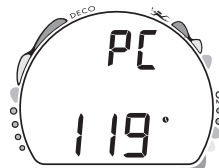

Fig. 21 - PC Interface
- After having set and accepted FO2, the PC screen appears (Fig. 21).